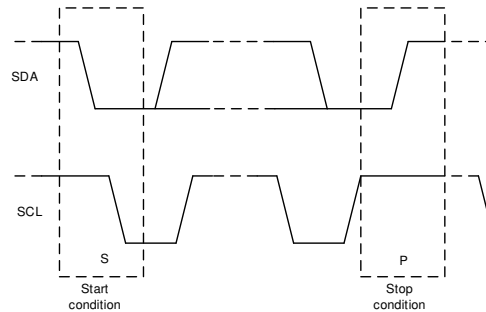

**图 59. Acknowledge and Not Acknowledge on the I2C Bus**
Other than specific timing signals, the I2C interface works with serial bytes. At the end of each byte, a ninth clock cycle generates and detects an acknowledge signal. Acknowledge is when the SDA line is pulled low during the high period of the ninth clock cycle. A not-acknowledge is when the SDA line is left high during the high period of the ninth clock cycle as shown in 图 59.
2. The master then generates the SCL pulses, and transmits the 7-bit address and the read/write direction bit (R/W) on the SDA line. During all transmissions, the master makes sure that data are valid. A valid data condition requires the SDA line to be stable during the entire high period of the clock pulse, as shown in 图 61. All devices recognize the address sent by the master and compare it to their internal fixed addresses. Only the slave device with a matching address generates an acknowledge by pulling the SDA line low during the entire high period of the 9th SCL cycle, as shown in 图 59. Upon detecting this acknowledge, the master knows the communication link with a slave has been established.